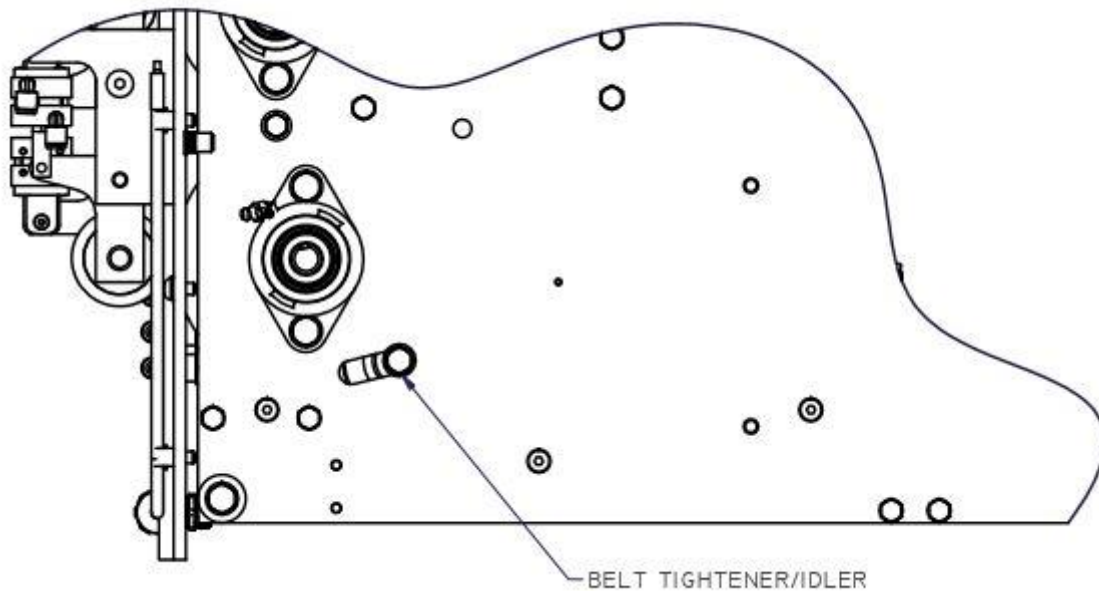
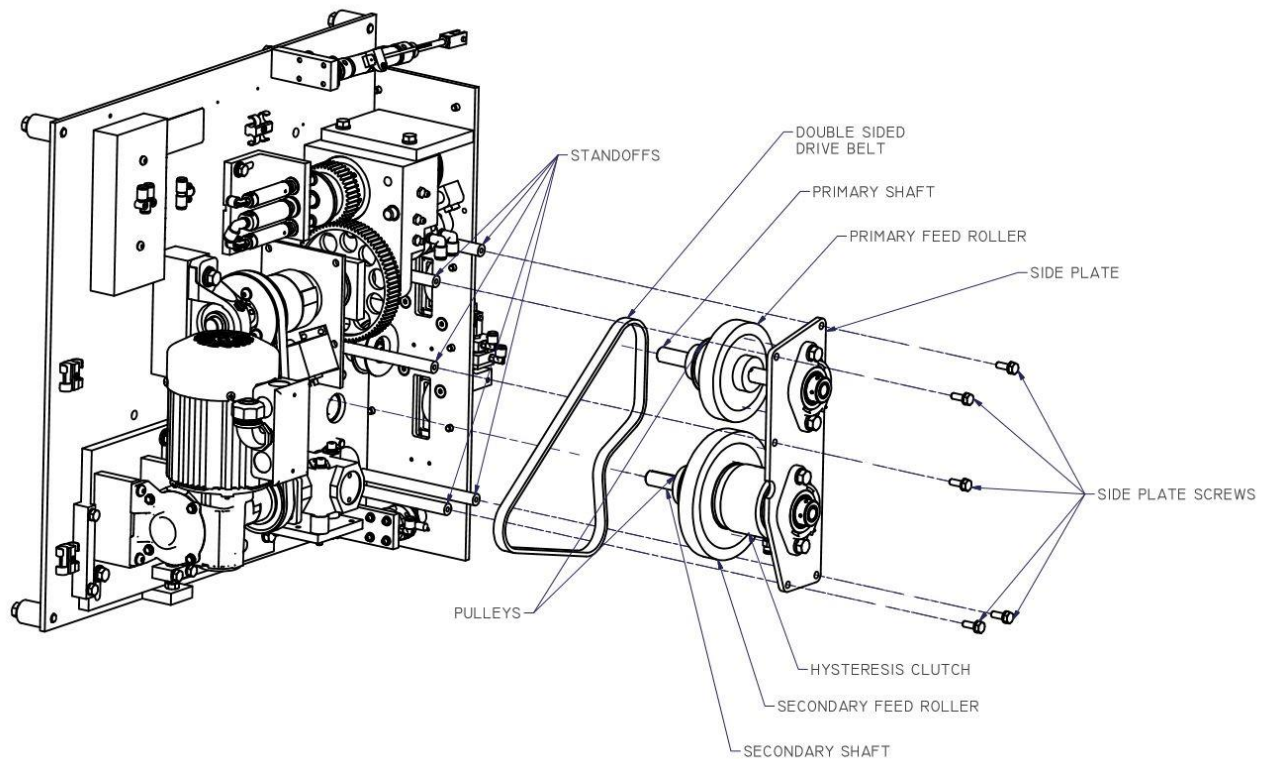
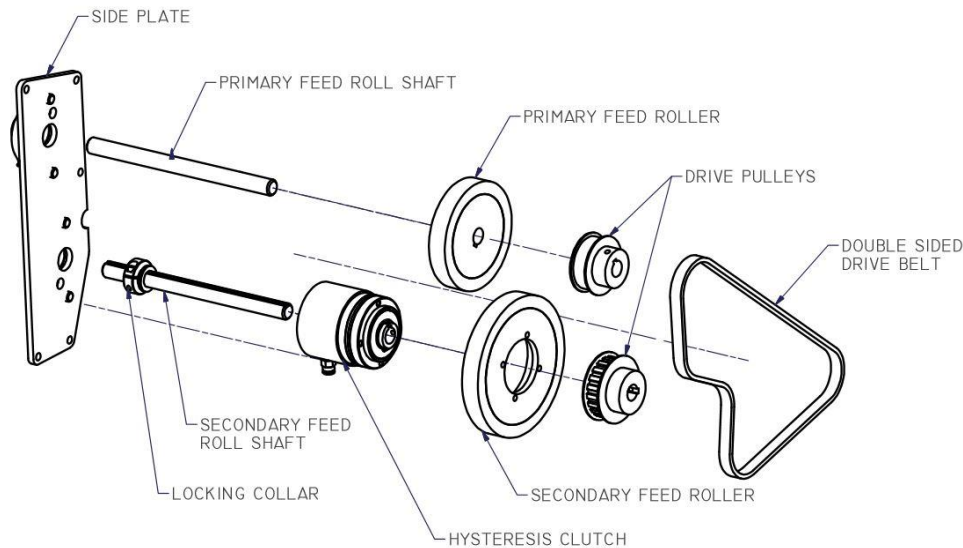

Figure 6.5.1 Belt Tightener Adjustment Diagram
Figure 6.5.2 Exploded View of Rollers, Clutch, Belt, and Shafts
Figure 6.5.3 Exploded View of Rollers, Clutch, Belt, and Shafts
(Reference Figure 6.5.1, Figure 6.5.2, & Figure 6.5.3)
2. Loosen belt tightener pulley assembly (Screw head on back plate access panel side) and slide toward machine rear to loosen drive belt. Reference Figure 6.5.1.